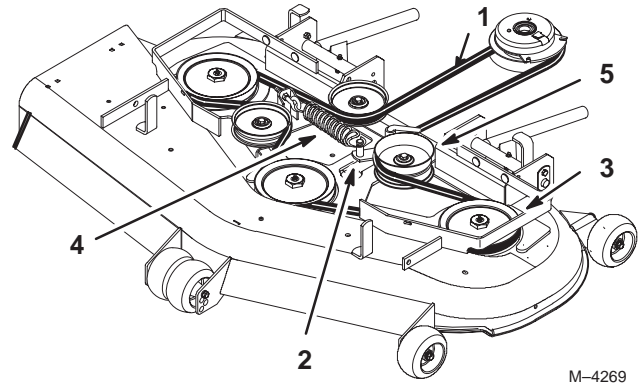

Figure 65
4. Remove belt. Start at outside pulley and rotate off (Fig. 65).
7. Reinstall idler pulley and route belt onto other pulleys (Fig. 65).